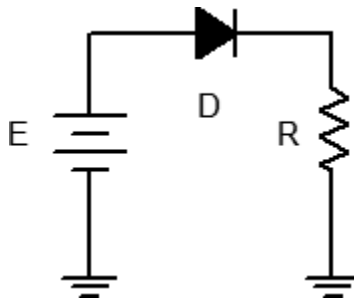
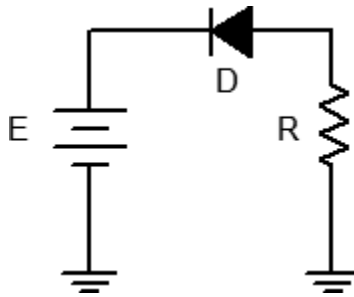

Figure 1
Figure 2
1. Consider the circuit of Figure 1 using $R = 1 \text{ k}\Omega$. For any positive value of E , the diode should be forward biased. Once E exceeds the knee voltage, all of E (minus approximately 0.7 volts) drops across R . Thus, as E increases, so does the diode current.
2. Build the circuit of Figure 1 using $R = 1\text{ k}\Omega$. Set E to 0 volts and measure both the diode's voltage and current and record the results in Table 1. Remember, voltage is measured across a device (parallel) while current is measured through it (series). Repeat this process for the remaining source voltages listed.
4. Consider the circuit of Figure 2 using $R = 1\text{ k}\Omega$. For any positive value of E , the diode should be reversed biased. In this case, the diode should always behave like an open switch and thus no current should flow. If no current flows, the voltage across R should be zero, and thus the diode voltage should be equal to the applied source voltage. Note that the diode's voltage polarity is negative with respect to that of Figure 1.
5. Build the circuit of Figure 2 using $R = 1\text{ k}\Omega$. Set E to 0 volts and measure both the diode's voltage and current and record the results in Table 2. Repeat this process for the remaining source voltages listed.